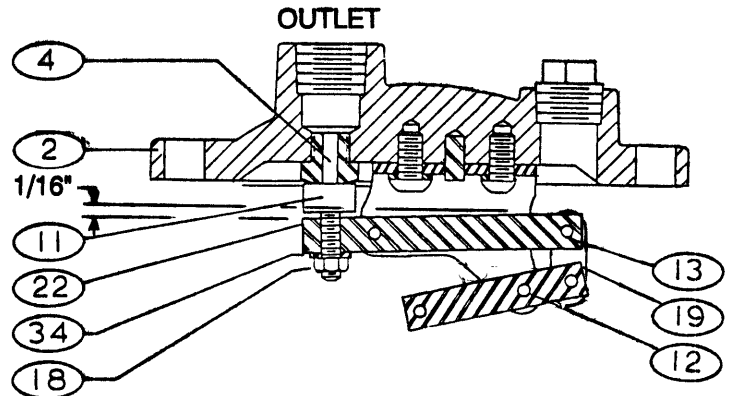

FIGURE 4. ORIFICE BUTTON ADJUSTMENT
1. Apply Loctite PST No. 565 thread sealant to seat (4) and assemble to cover with maximum torque of 20 ft-lbs; DO NOT OVER-TORQUE.
2. Assemble lever frame (3) to cover over locating pin (21) in cover. Secure with screws (8) and washers (30).
3. Install new orifice button (11) flush to arm (22). Assemble lockwasher (34) and locknut (18) over orifice button but do not tighten.
4. Connect arms (10 & 22) and assemble to lever frame (3) with four pivot pins (12) and retaining rings (13); rings should snap over pins.
5. Adjust orifice button (11) so that orifice button arm (22) slopes up about 1/16" when resting gently against seat (4) as shown in Figure 4. Secure button by tightening lockwasher (34) and nut (18).
6. Attach float (5) by installing last pivot pin (12) into lever frame (3). Float should move freely pressing the orifice button (11) against the seat (4) when pushed upward. Verify that all retainer rings (13) are properly secured.
7. Lay new cover gasket on clean surface and apply a gasket compound such as Garlock 101-S to both surfaces. Assemble gasket (6) and cover (2) over